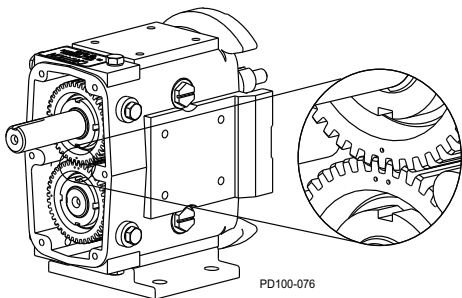

Figure 289 - Timing Gear Marks
3. Slide the short shaft gear onto the short shaft. The short shaft gear has two punch marks on the gear. Straddle the single punch mark of the spur drive gear with the two punch marks on the short shaft gear (Figure 289).